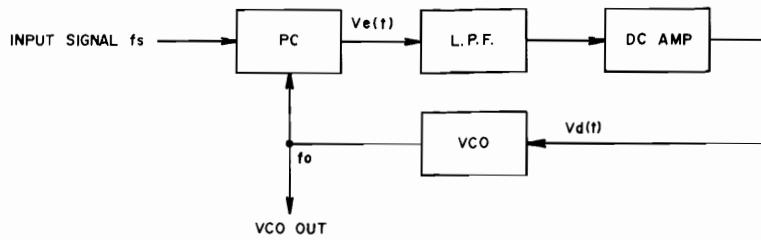

Fig. 9 PLL Circuit
PLL circuit is a kind of feedback circuit and is comprised of a Phase Comparator (PC), a Low Pass Filter (LPF), a Direct Current Amplifier (DC Amp), and a Voltage Control Oscillator (VCO) as shown in Fig. 9. The PC compares input signal f_s and VCO oscillator output and generates the difference in signal voltage $V_e(t)$ proportionately to this phase deviation. This $V_e(t)$ passes LPF and the DC Amp. and becomes control voltage. This control voltage supplied to VCO and VCO oscillation frequency is DC controlled. When there is no input signal f_s , because there is also no $V_e(t)$, control voltage $V_d(t)$ becomes zero, and VCO maintains a * free-running oscillation frequency. When a signal enters, VCO oscillation frequency f_o is controlled to narrow the difference between f_s by means of feedback as described above, and the PLL circuit assumes a synchronous condition. This is referred to as input signal lock. (In case the difference between f_o and f_s is too large, the differential signal frequency becomes high and is reduced at the LPF.
Accordingly, for composite stereo signal demodulation, the sub carrier used for demodulation at the transmitter must be the same uniform 38 kHz signal as the frequency and phase. If the 38 kHz waveform is asymmetrical, channel separation will become poor. At the PLL employed MPX stereo demodulator circuit, as shown in Fig. 9, first a 76 kHz signal is oscillated and when this passes the divider, a symmetrical 38 kHz signal is obtained.